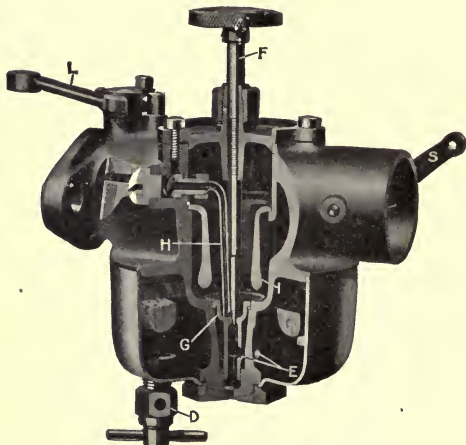

FIG. 105.—Holley Model G carburetor.
59. Holley Model G.—This carburetor, Fig. 105, is a special design for Ford cars.